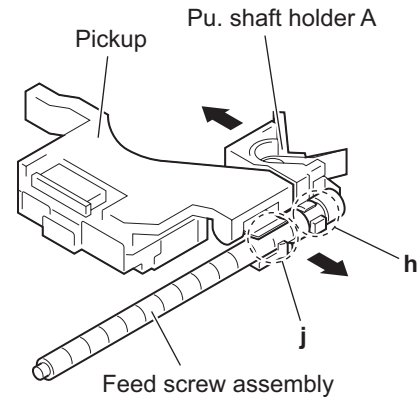

Fig.11
- (3) Take out the pickup with pu. shaft holder A and feed screw assembly from the chassis unit. (See Fig.11.)
- (4) Remove the section **h** of the pu. shaft holder A in the direction of the arrow. (See Fig.11.)
- (5) Remove the feed screw assembly from the section **j** of the pickup in the direction of the arrow. (See Fig.11.)
- (3) Reattach the feed screw assembly and pu. shaft holder A to the pickup as before. (See Fig.11.)